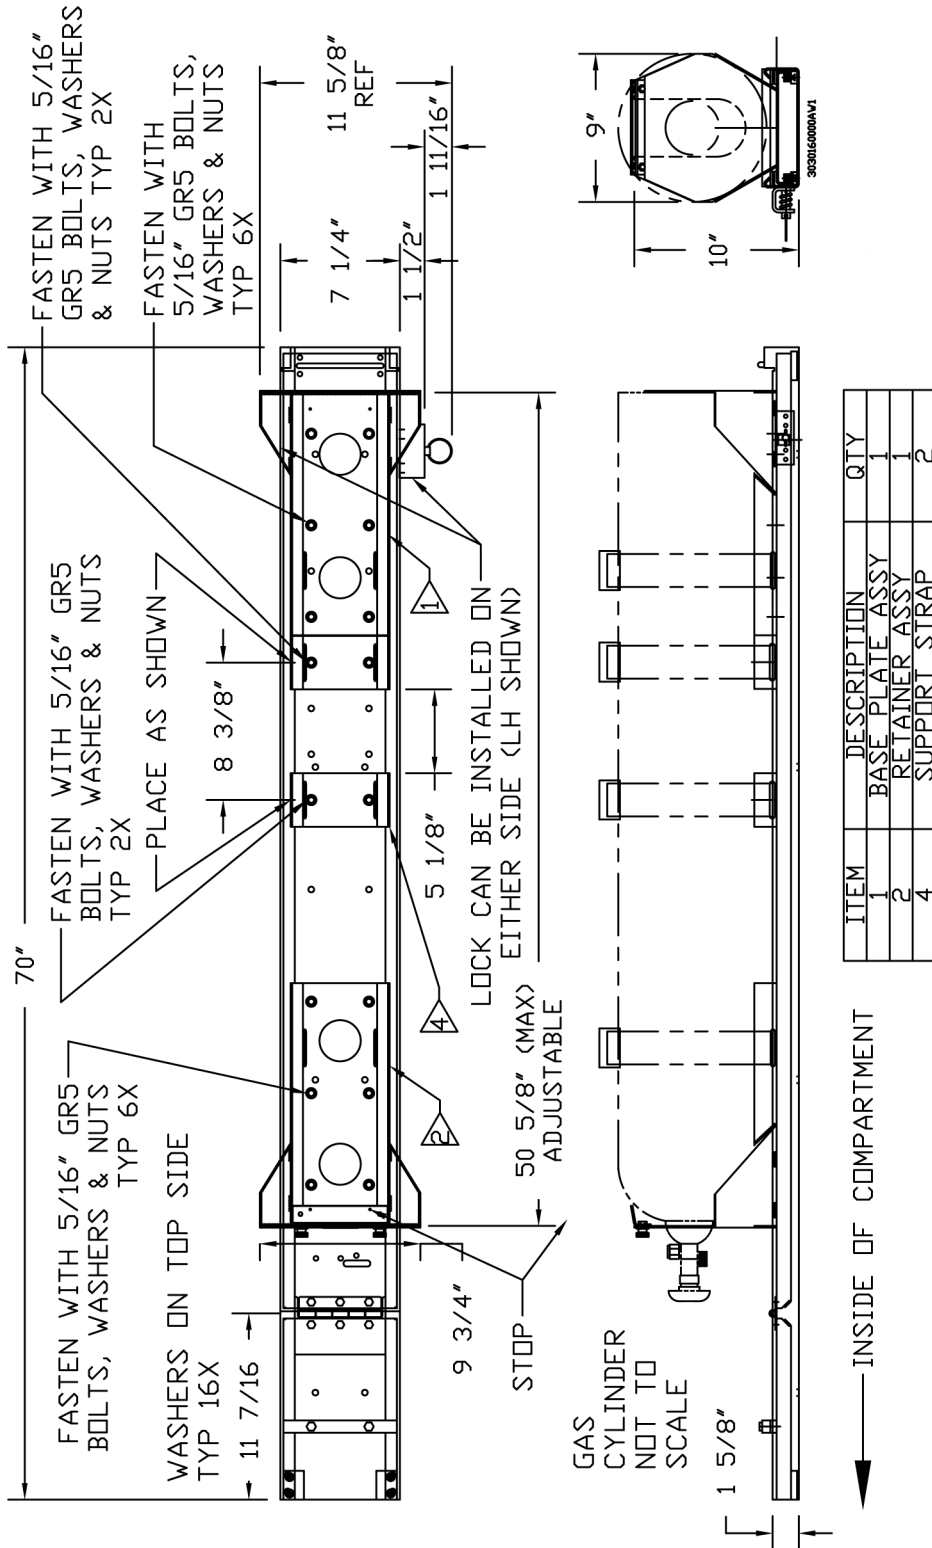
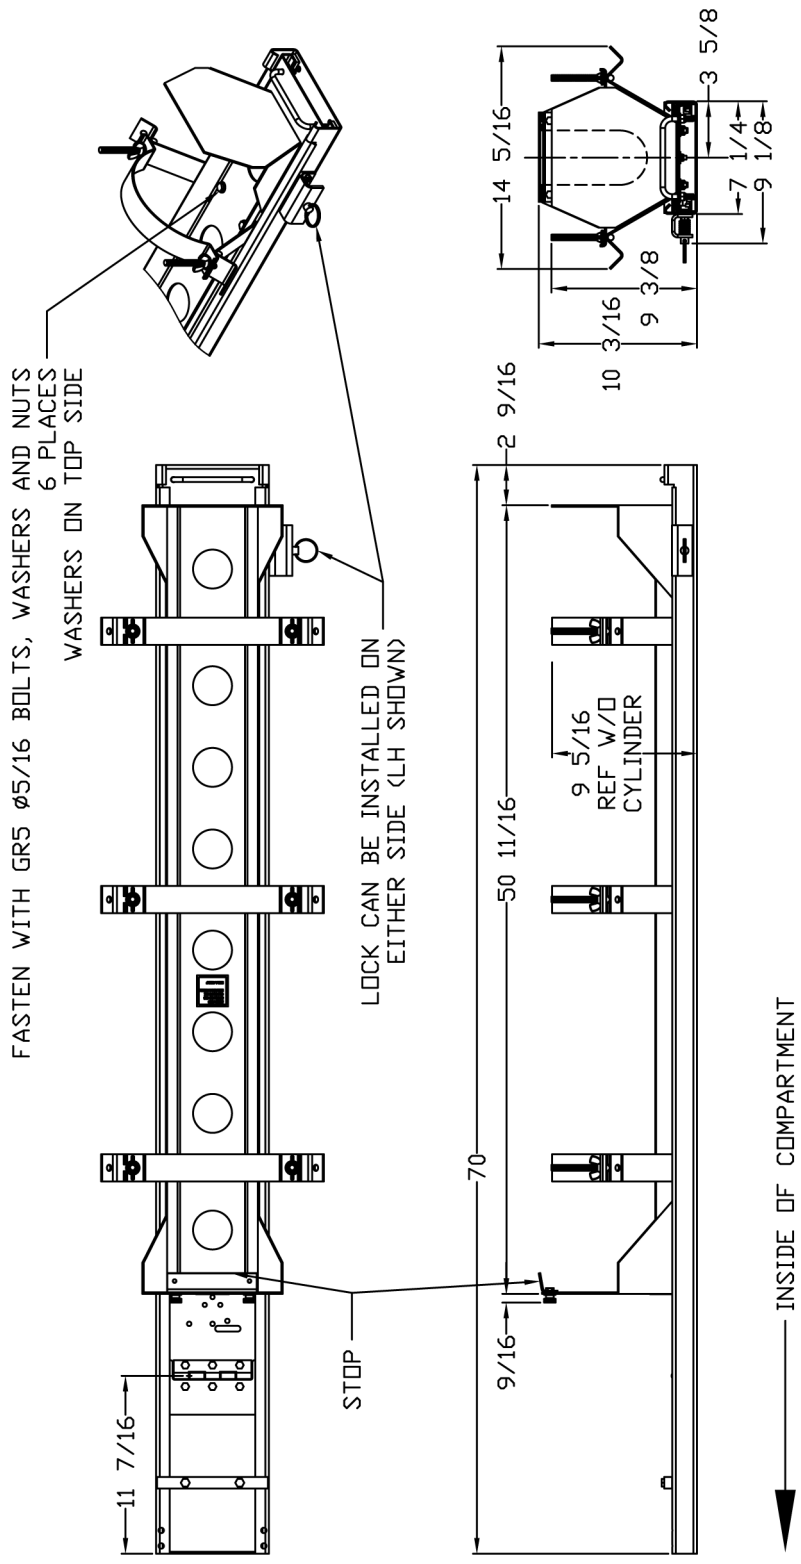

Figure 3
Figure 4
1. Roughly position the QR-SOFD in the apparatus. See Figure 3 (with QR-MV) or Figure 4 (with QR-GH) for overall height dimensions. Note that these dimensions do not include the Gas Cylinder.
Note: See Figure 3 for the following steps and refer to the QR-MV manual.
1. The positions of the brackets in Figure 3 are spaced for G and H Gas Cylinders.
2. Mount the four brackets as shown using 16x GR5 5/16-18 Hex Head Screws (26), washers (44) and Nuts (20).
1. Position and fasten the QR-MV’s Base Plate Assembly to the QR-SOFD Main Slider (2) using 6x GR5 5/16-18 Hex Head Screws (26), washers (44) and Nuts (20).
5. Fasten the Retainer Assembly using 6x GR5 5/16-18 Hex Head Screws (26), washers (44) and Nuts (20). Drill Ø11/32 holes if necessary to make sure that the Retainer Assembly has 6 fasteners securing it to the Main Slider (2).
6. See Figure 3 for the locations of the two Support Straps.
7. Fasten a Support Strap using 2x GR5 5/16-18 Hex Head Screws (26), washers (44) and Nuts (20). Repeat for the other Support Strap.
Note: See Figure 4 for the following steps and refer to the QR-GH manual.